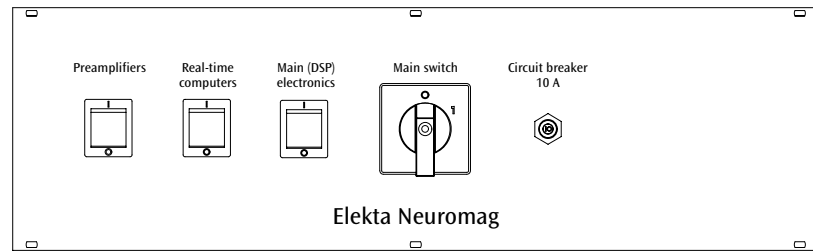

Figure 6.2. The mains control panel of the main electronics cabinet.
2. On the mains control panel of the main electronics cabinet (see Fig. 6.2), ensure that the green rocker switches (Pre-amplifiers, real-time computers, main electronics) are in “off” position.